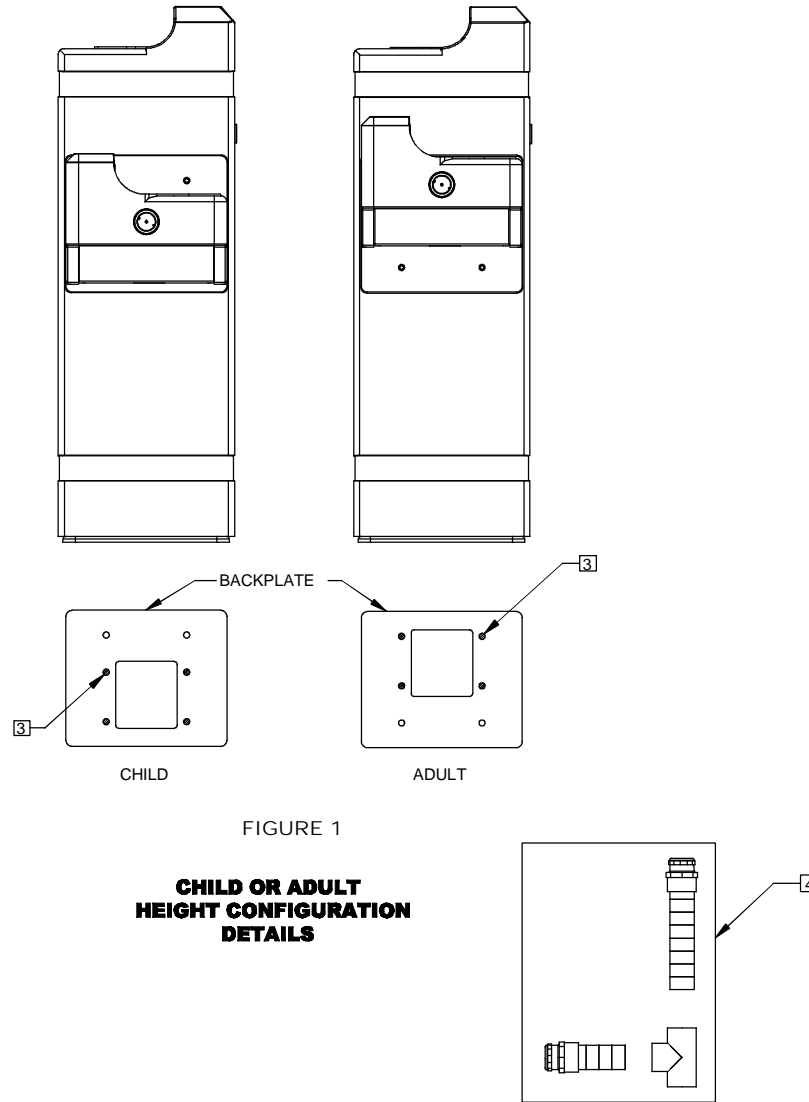

FIGURE 1
- 3 BASED ON DESIRED HEIGHT (CHILD OR ADULT) OF ARM, ORIENT BACKPLATE AS SHOWN IN FIGURE 1 AND USE APPROPRIATE SHADED HOLES.